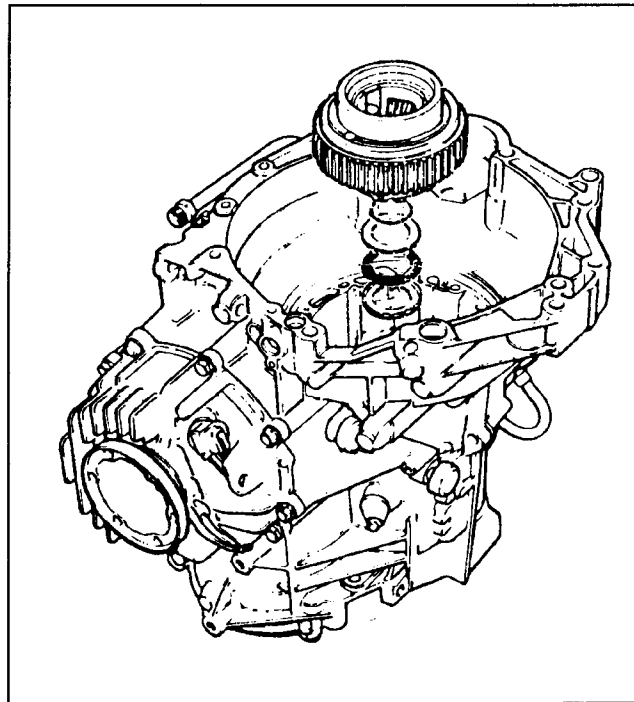

Figure 68
20. Lift and remove the planetary from the case and set it aside. Remove the torrington bearing and both races and check them for wear. (See figure 68).